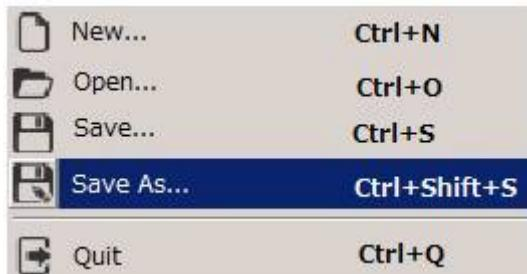

Figure 7-50 Save project file
- Click Save As. (Figure 7-50)